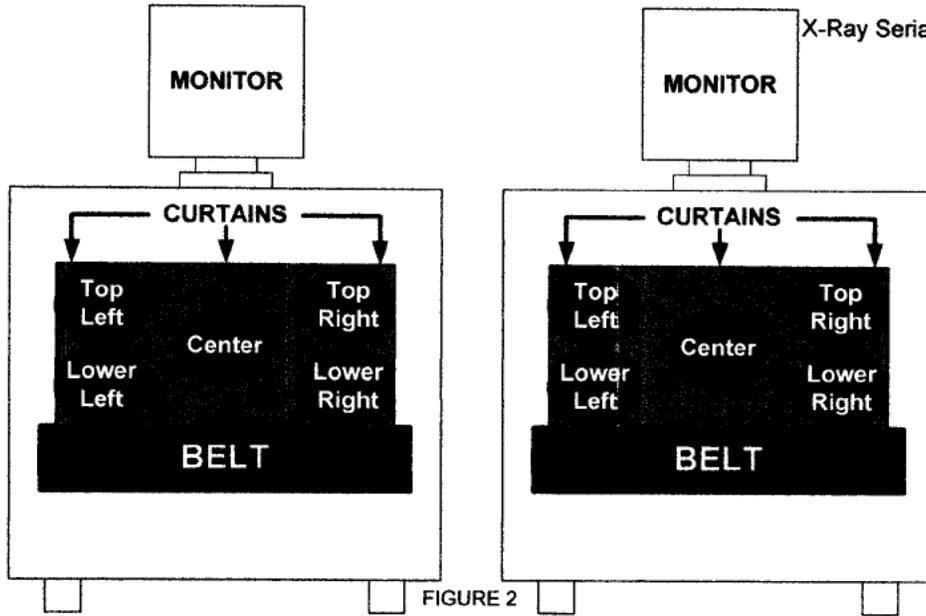

FIGURE 2
3. While holding the meter 5 centimeters (about 2 inches) from the surface, take readings in the area of the circles shown (Figure 2 above) on **BOTH** sides (ENTRANCE and EXIT) of the X-ray machine (total of 10 readings):